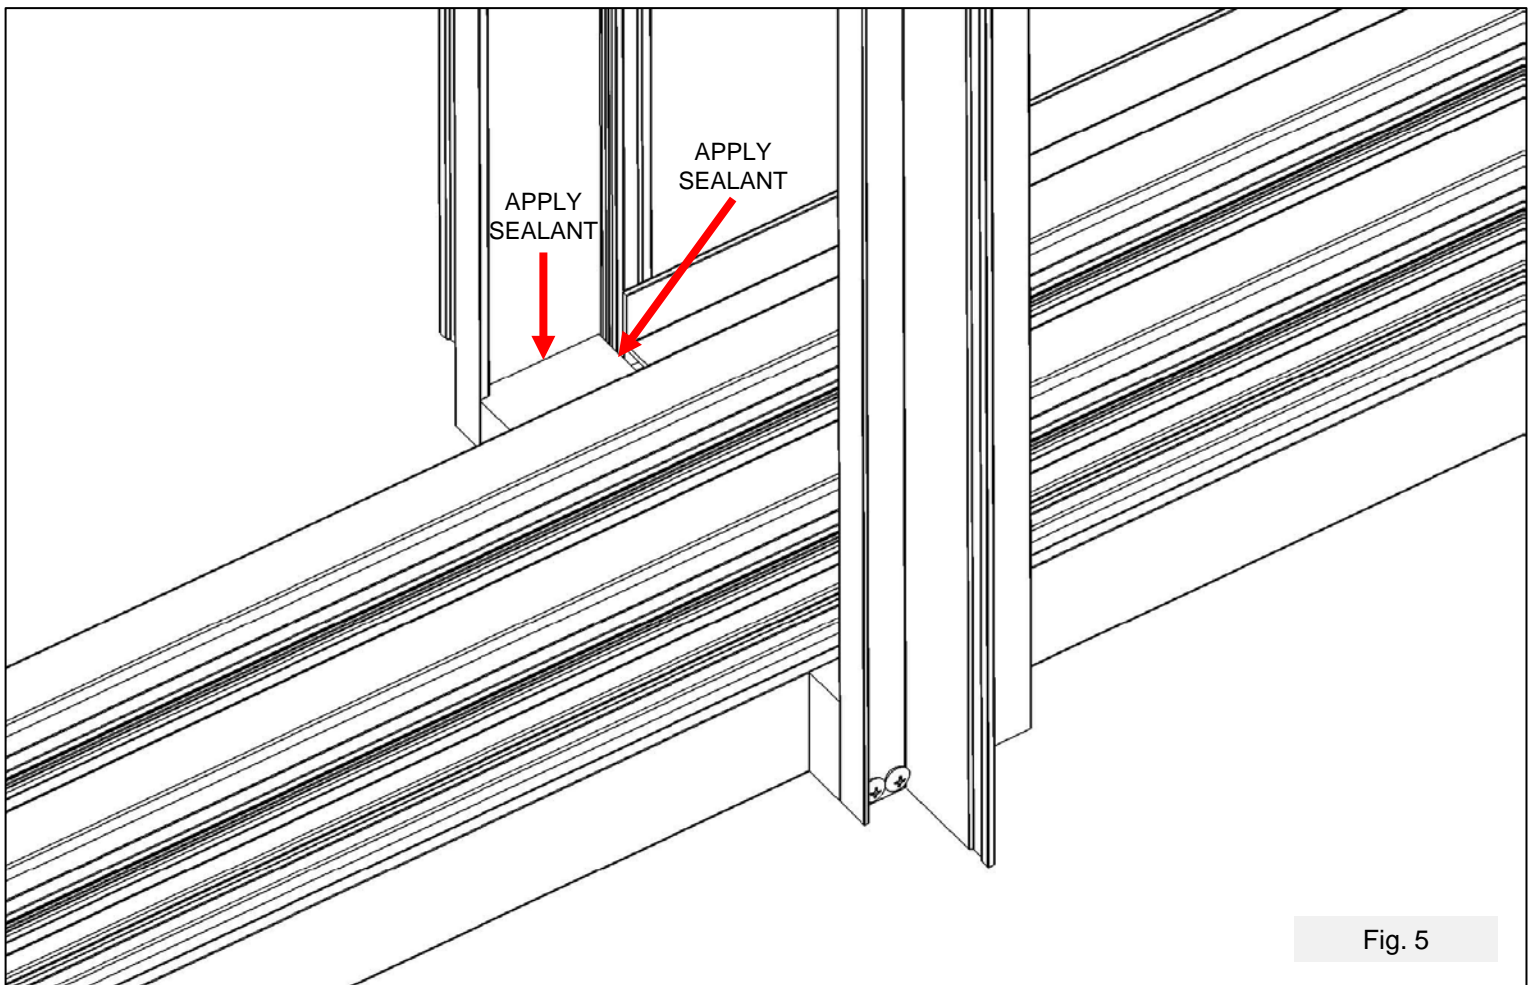

Fig. 5
12. Apply silicone sealant around perimeter of pocket post and pocket spacer, as well as between the exterior sill dam and the pocket post spacer (see Fig. 5).